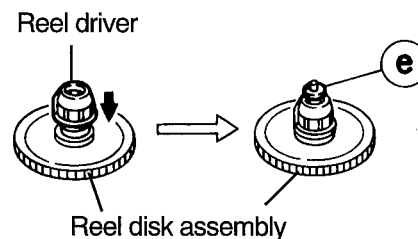

Fig. 7
■ Removing the Reel Disk Assembly (See Fig. 7)
5. Detach the mylar washer ⑥ from the tip by first pressing down the reel driver to expose it.